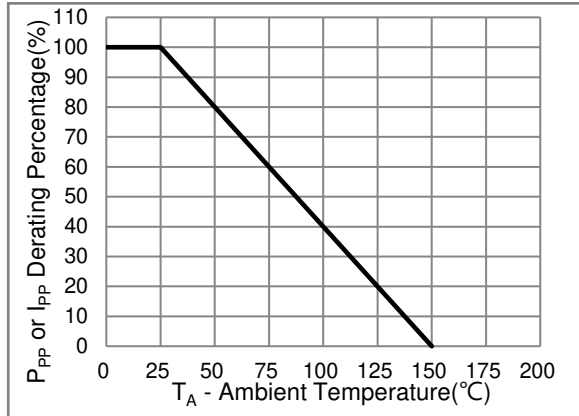
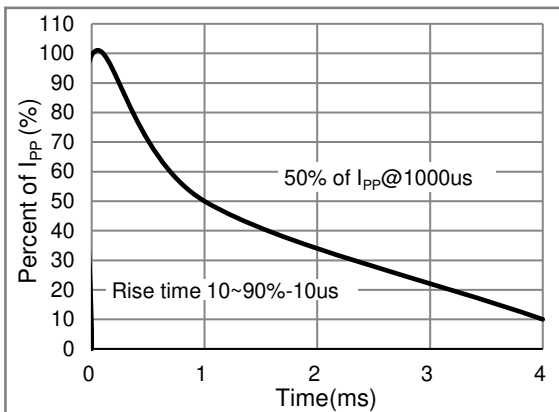

Fig.2 Derating Curve
Fig.3 10/1000us Pulse Waveform
1. Non-repetitive current pulse, per Fig.3 and derated above $T_A = 25^{\circ}C$ per Fig. 2.